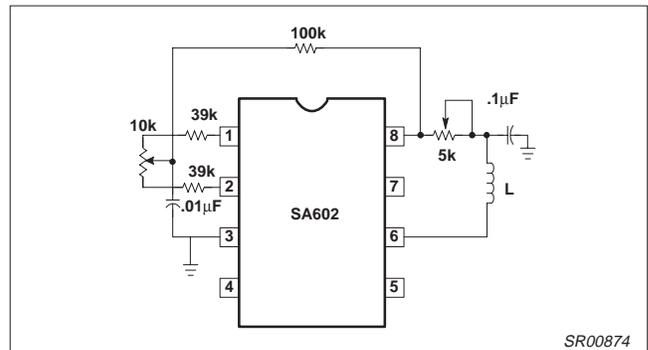

Figure 35. Minimizing RF and LO Feedthrough
A. The RF and LO feedthroughs are due to offset voltages at the input of the mixer's differential amplifiers and the imbalance of the parasitic capacitors. A circuit, such as the one shown in Figure 35, can be used to adjust the balance of the differential amplifiers. The circuit connected to Pins 1 and 2 will minimize RF feedthrough while the circuit shown connected to Pin 6 will adjust the LO feedthrough. The only limitation is that if the RF and LO frequencies are in the 100MHz range or higher, these circuits will probably be effective for a narrow frequency range.